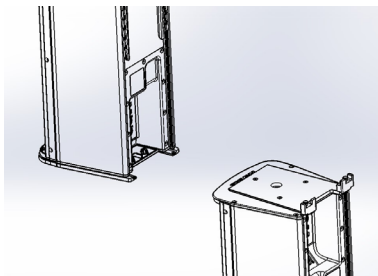

Figure 5 - Attach AC6 columns
- Insert next unit with locking plate to connect (Figure 5)